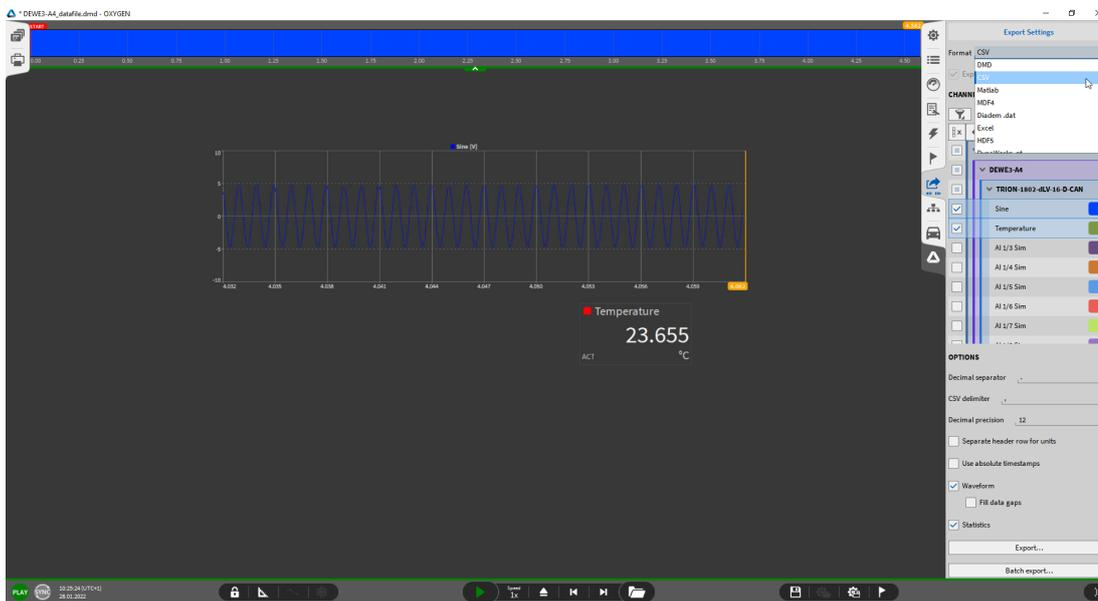

Fig. 27: Exporting data file for post-processing
The green border and PLAY indicator in the lower left corner indicate that a file is loaded for post-processing (see Fig. 27).
4. Click on the export button seen in *Fig. 27*.